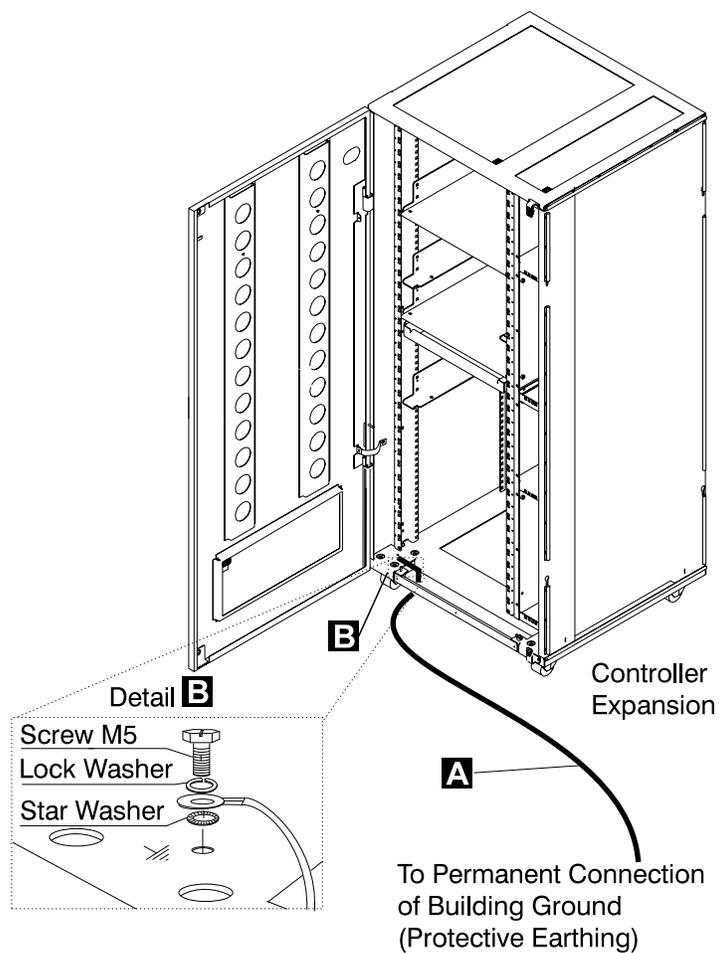
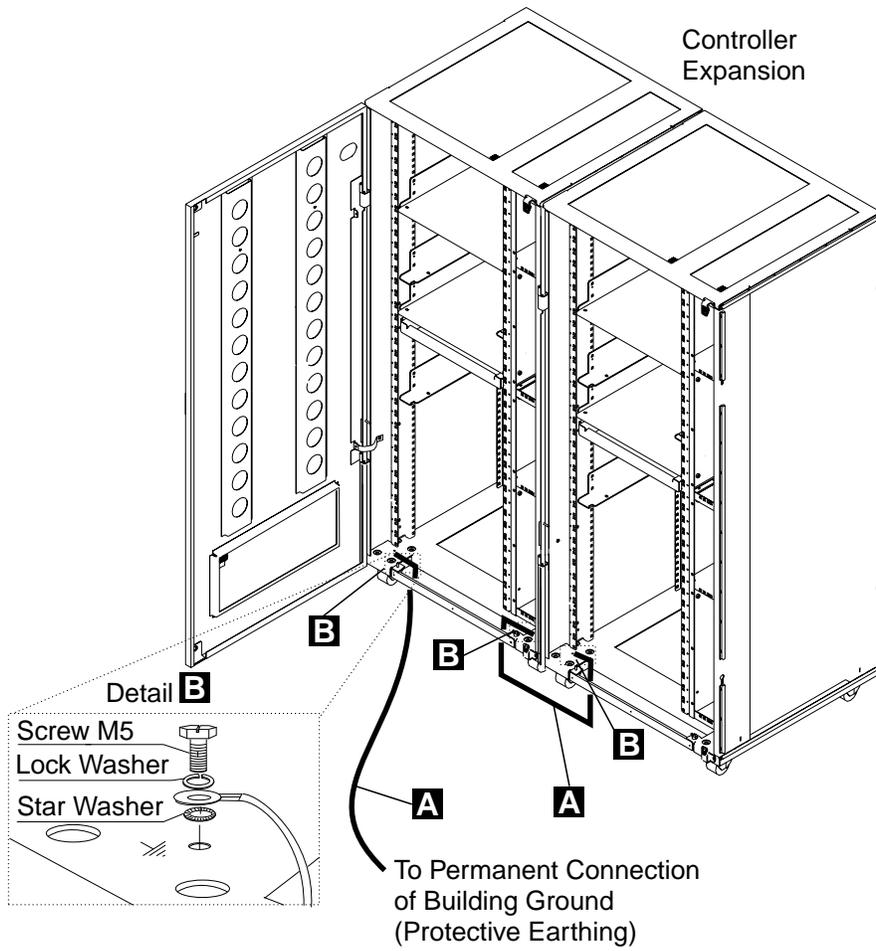
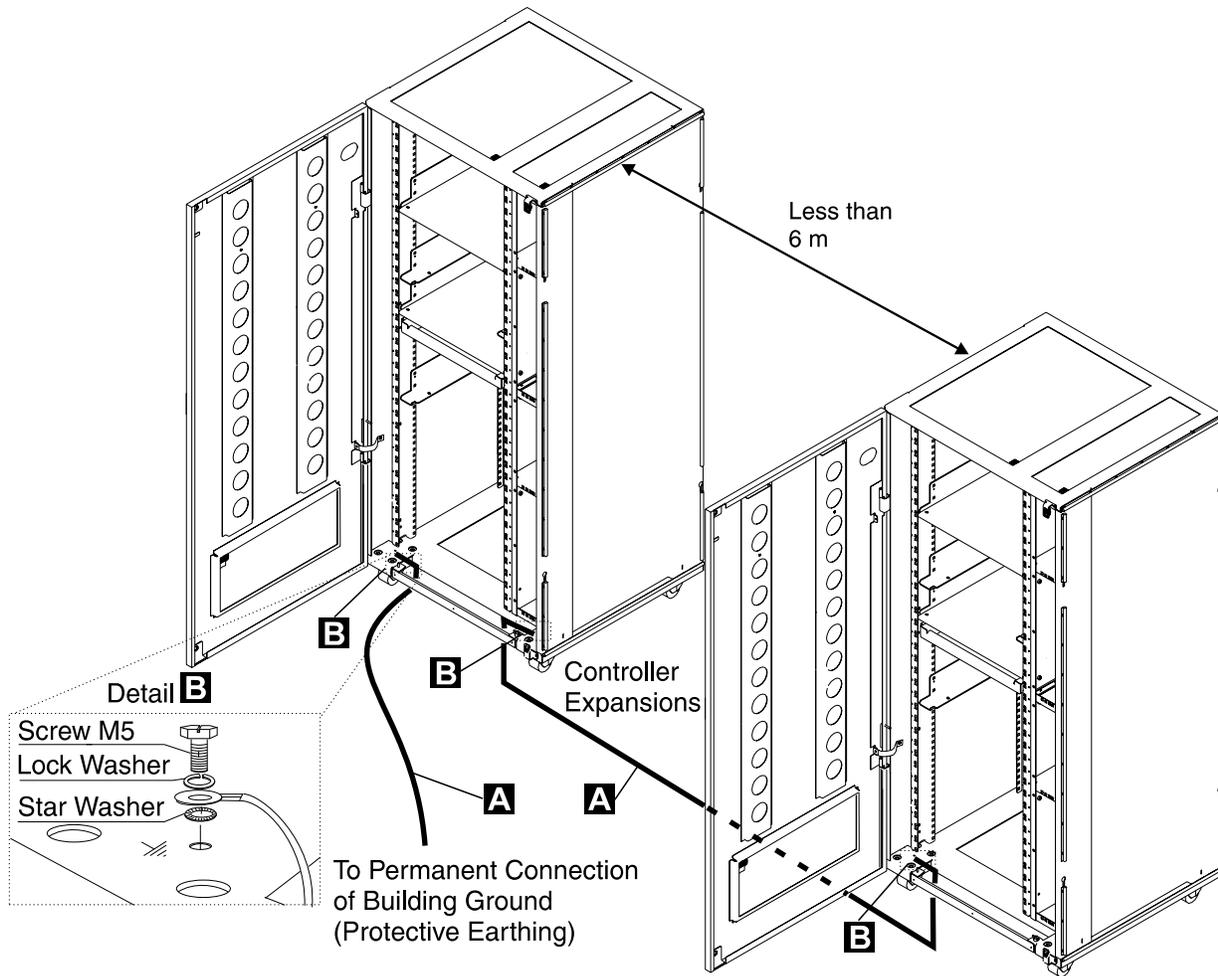
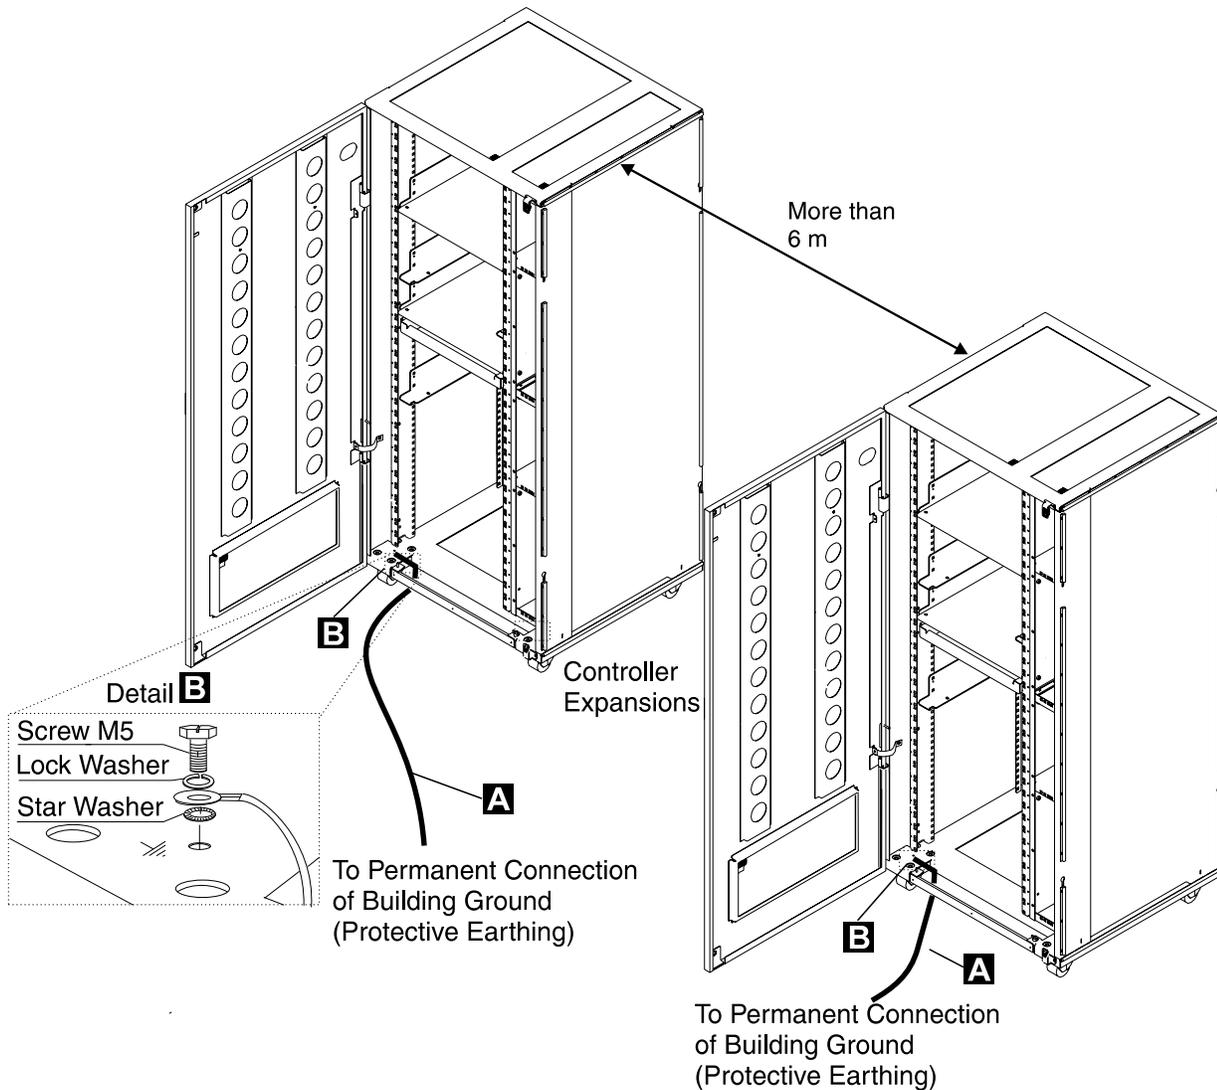

Figure 0-2. Ground Wire Connection on Controller Expansion
Figure 0-3. Ground Wire Connection Between Attached Controller Expansions
Figure 0-4. Ground Wire Connection Between Controller Expansions at Less than Six Meters
Figure 0-5. Ground Wire Connection Between Controller Expansions at More than Six Meters
Do not remove the power cord and ground strap **A** of the controller expansion in order to maintain the ground protection (see Figure 0-2 on page xxi, Figure 0-3 on page xxii, Figure 0-4 on page xxiii, or Figure 0-5 on page xxiv).
- For the controller expansion, an additional ground wire **A** is also used (see Figure 0-2 on page xxi, Figure 0-3 on page xxii, Figure 0-4 on page xxiii, or Figure 0-5 on page xxiv).
- If you have only one controller expansion installed, check that the ground wire **A** is installed (see Figure 0-2 on page xxi).
- If you have several controller expansions installed, check that the ground wires **A** are installed according to your configuration (see Figure 0-3 on page xxii, Figure 0-4 on page xxiii, or Figure 0-5 on page xxiv).